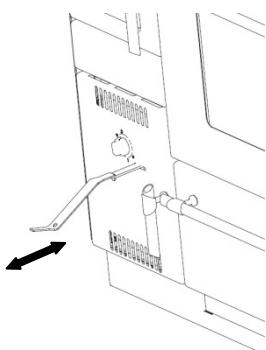

Fig. 8
The grate can be riddled in any height position using the riddle bar (15). When it is hot then the regulator lever can be used (Fig. 8).